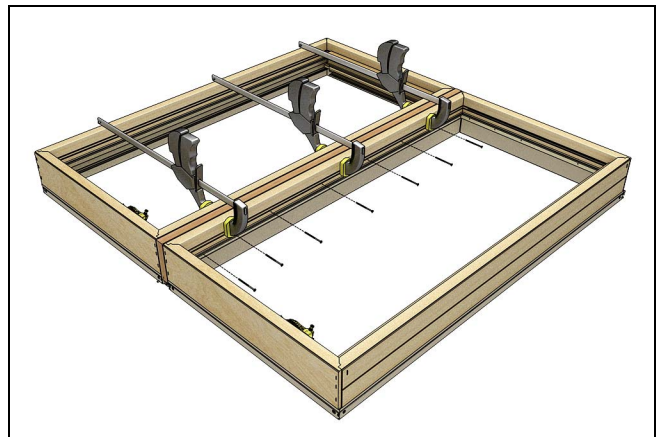

Figure 25
4. Clamp the two units together and repeat screwing through the jambs as before. See Figure 25